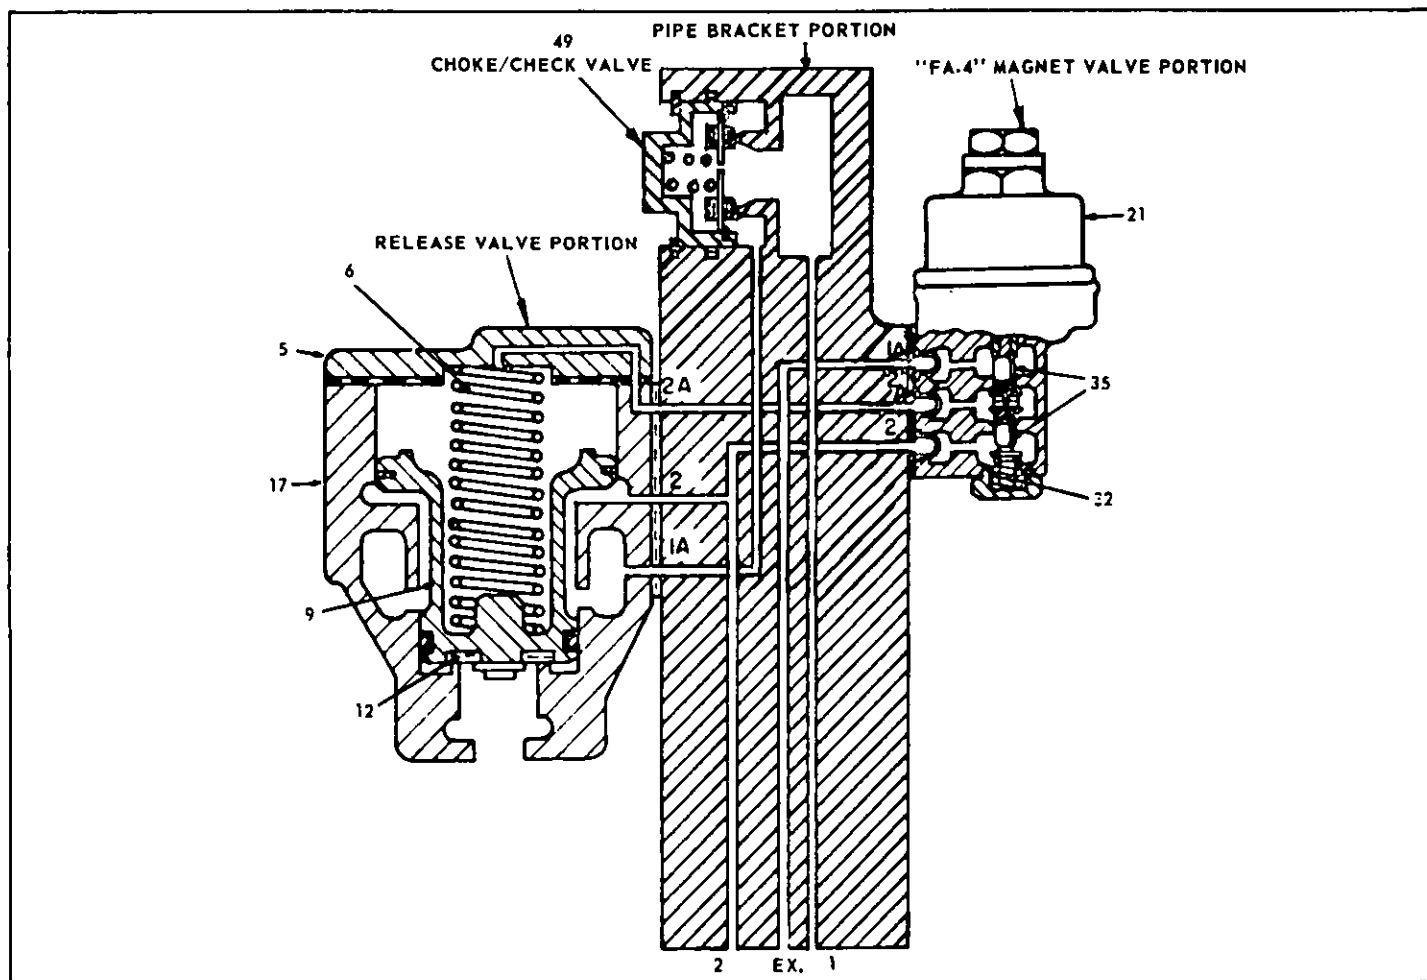

FIGURE 1 - "C-3" DECELOSTAT VALVE - DIAGRAMMATIC VIEW
(Refer to Figures 1 and 2) The Release Valve Portion is a pneumatic type valve consisting of a body (17), which houses a piston assembly (7 to 12 incl.) and a top cover (5).
(Refer to Figures 1 and 2) The "FA-4" Magnet Valve Portion, Pc. 527702, is an electro-pneumatic valve with a voltage range of 45 to 85 volts. The nominal voltage is 64 volts, and the maximum operating air pressure is 150 psig. The electric portion of the valve portion consists of a magnet coil housing (21) containing a magnet coil (28), magnet core (29), armature (25), armature stem (24), and stem adjusting screw (23). The pneumatic portion of the valve portion contains the upper and lower valves (35) and the valve spring (32).
(Refer to Figures 1 and 2) The Pipe Bracket Portion is bolted to the truck body and is designed to allow for the removal and replacement of the valve portions without disturbing any pipe connections. The Pipe Bracket Portion is normally installed in the brake cylinder air line so that port 1 is connected to the brake cylinder side and port 2 to the air supply source.
(NOTE: Figure 1 shows the "C-3" DECELOSTAT Valve diagrammatically to make air passage connections and valve operation more easily understood. The diagrammatic view is not intended to show the actual construction of the valve.)